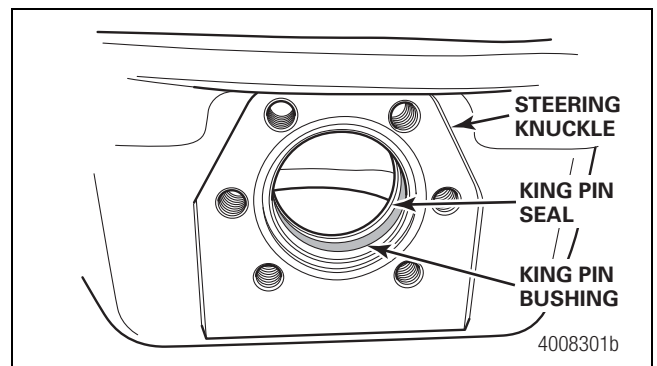

Figure 3.5
10. If worn or damaged, use a hammer and suitable flat face driver to remove the king pin bushings from the knuckle. Figure 3.5.